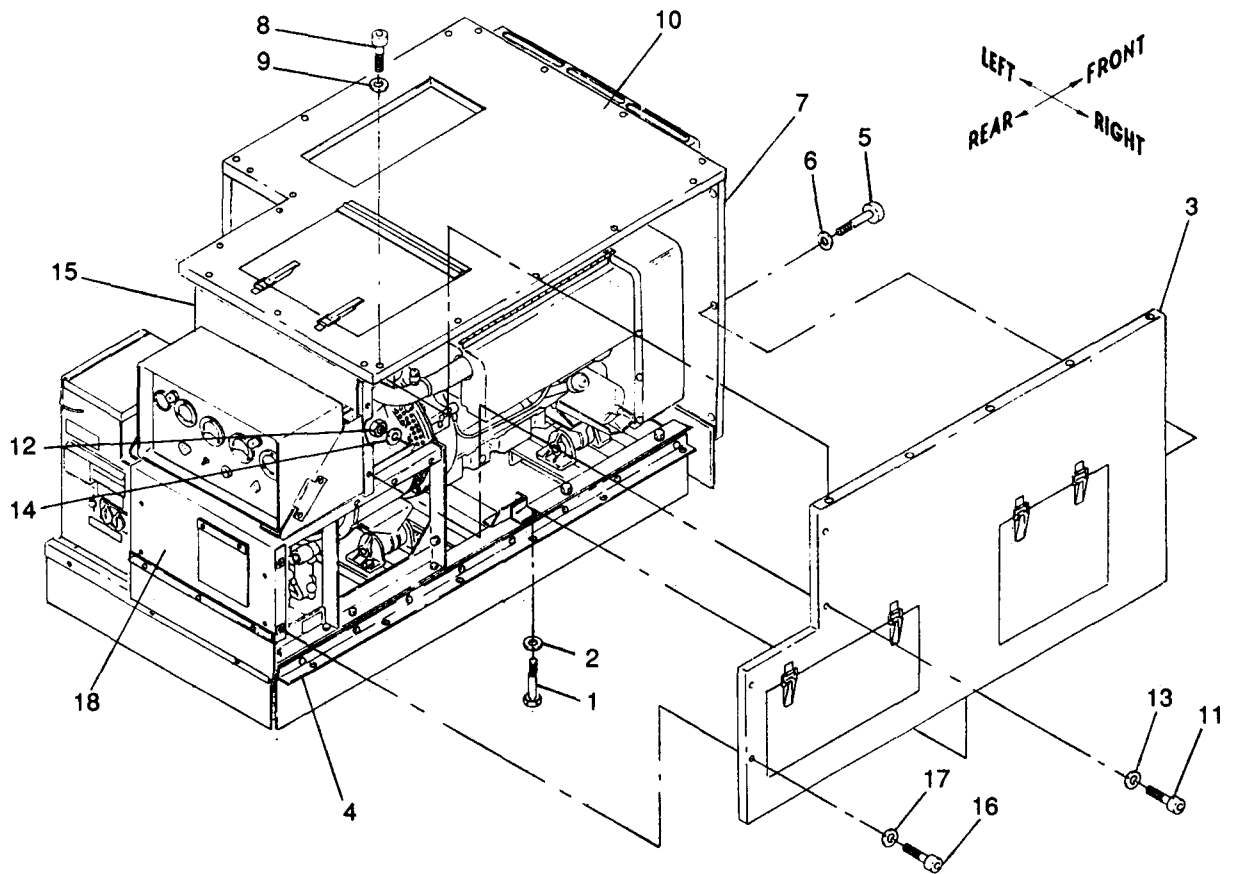

Figure 5-5. Right Panel Assembly, Removal and Installation
a. Removal. See figure 5-5. Remove right panel assembly from right support assembly, rear panel assembly, front panel assembly, top panel assembly and rear closure assembly as follows:
- (1) Remove six screws (1) and washers (2) securing right panel assembly (3) to right support assembly (4).
- (2) Remove three screws (5) and washers (6) securing right panel assembly (3) to front panel assembly (7).
- (3) Remove five screws (8) and washers (9) securing right panel assembly (3) to top panel assembly (10).
- (4) Remove two screws (11) and two locknuts (12), and four washers (13 and 14) securing right panel assembly (3) to rear closure assembly (15) and remove two screws (16) and washers (17) securing right panel assembly (3) to rear panel assembly (18) and remove right panel assembly (3).
b. Installation. See figure 5-5. Install right panel assembly to right support assembly, front panel assembly, top panel assembly, rear closure assembly and rear panel assembly as follows:
(1) Position right panel assembly (3) on right support assembly (4) and install two screws (11) and locknuts (12), and four washers (13 and 14) securing right panel assembly (3) to rear closure assembly (15) and install two screws (16) and washers (17) securing right panel assembly (3) to rear panel assembly (18).
(2) Torque screws (11) to 16  $\pm$ 2 ft-lbs dry.
(3) Torque screws (16) to 18  $\pm$ 2 in.-lbs dry.
(4) Install five screws (8) and washers (9) securing right panel assembly (3) to top panel assembly (10).
(5) Torque screws (8) to 18  $\pm$ 2 in.-lbs dry.
(6) Install three screws (5) and washers (6) securing right panel assembly (3) to front panel assembly (7).
(7) Torque screws (5) to 18  $\pm$ 2 in.-lbs dry.
(8) Install six screws (1) and washers (2) securing right panel assembly (3) to right support assembly (4).
(9) Torque screws (1) to 18  $\pm$ 2 in.-lbs dry.